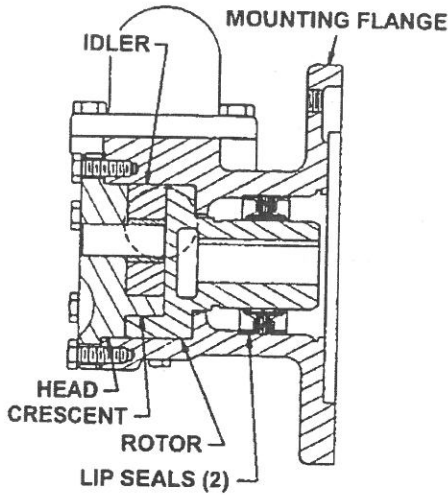

FIGURE 5
6. **THE HEAD CAN NOW BE ASSEMBLED ON THE PUMP.** Tilt the top of the head away from the pump slightly until the crescent enters the inside diameter of the rotor and rotate the idler until its teeth mesh with the rotor teeth. Do not damage the head gaskets. Note correct position of the idler and crescent (See Figure 5 and Disassembly step 2). Tighten the head capscrews and then check the end clearance.